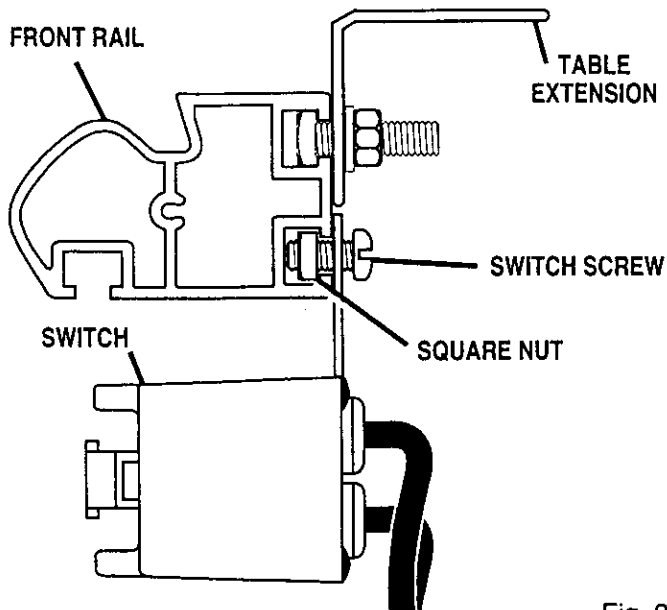

Fig. 2
- Under the front rail, loosen the switch screws and slide the switch off of the rail. *See Figure 2.*